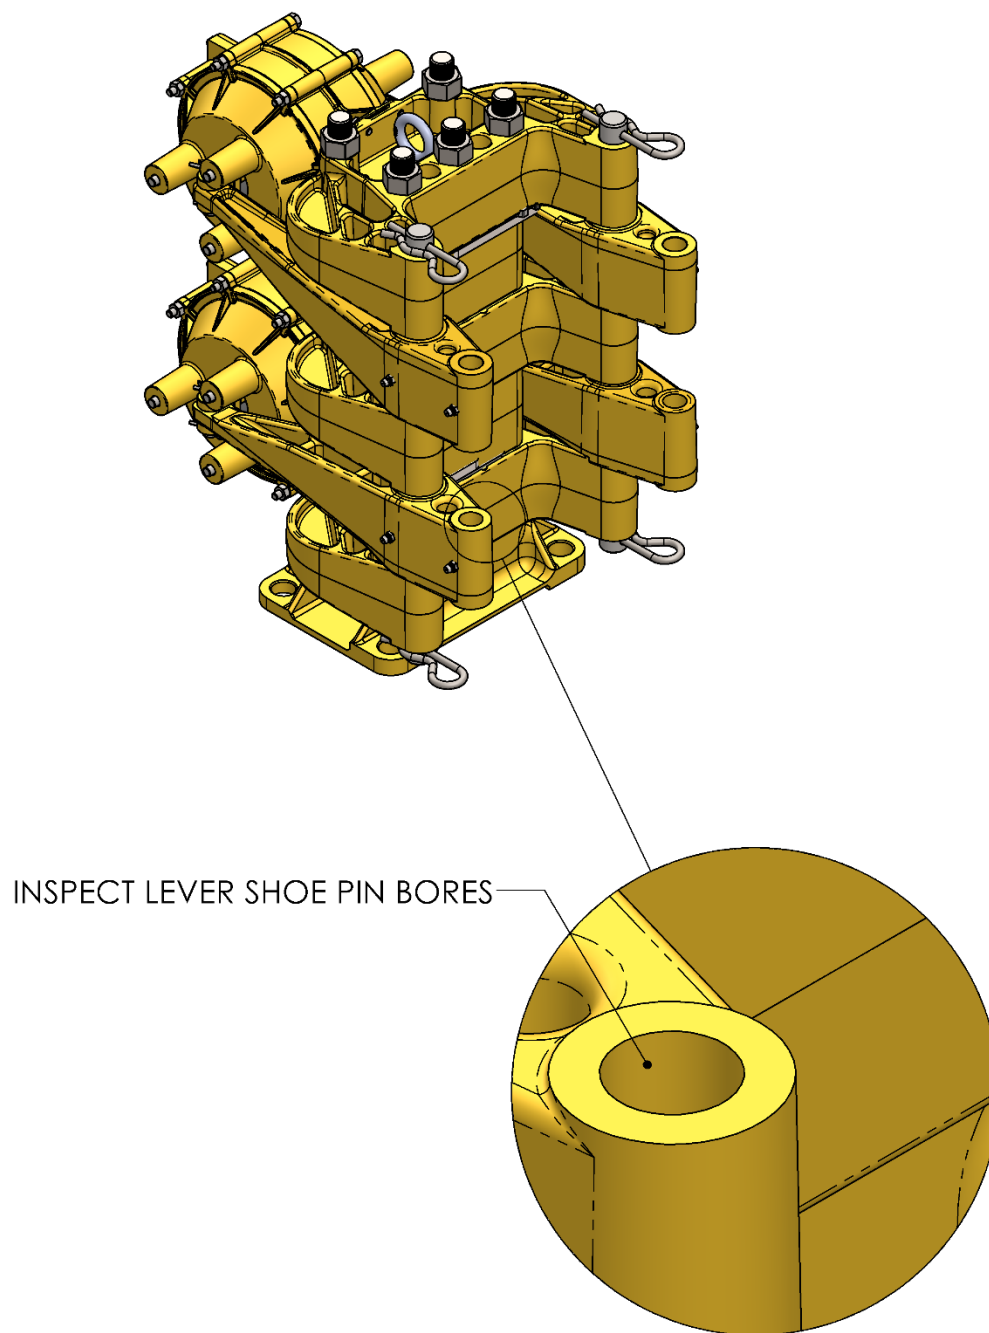

Figure 6: Inspecting lever shoe pin bore
5. Refer to Figure 6 for the next 3 steps.
11. Inspect the lever shoe pin bushing bores for signs of wear and damage as shown in Figure 6. The lever shoe pin bore must not exceed the specified diameter given in Table 9. If needed, replacement levers can be ordered from the factory.